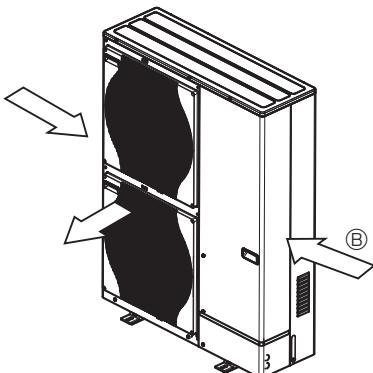

Fig. 2-5
- ③ Position the unit so that the air outlet blows perpendicular to the seasonal wind direction, if possible. (Fig. 2-5)